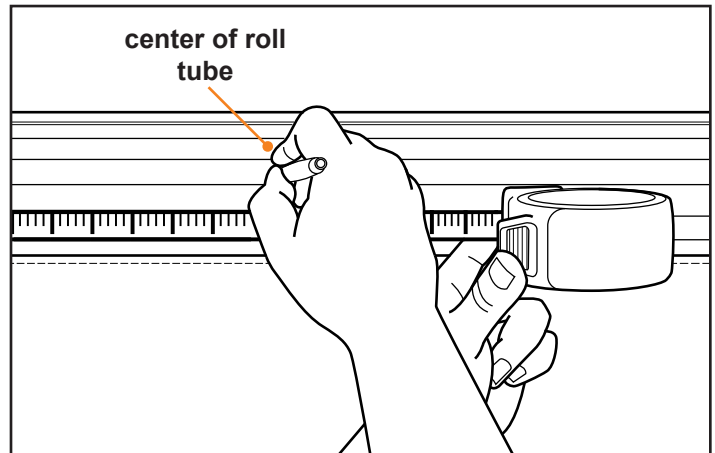

Fig.2
2. Find the center of the roll tube and mark its location (Fig.2).